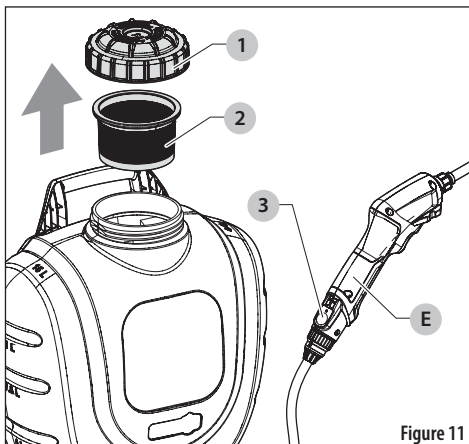

Figure 11
1. Ensure the power wand sprayer (E) is OFF and remove the power wand sprayer. See Figure 11.
2. Remove the cap (1) and the filter basket (2) and empty any extra chemical from the tank into a suitable container for later use or dispose according to the chemical manufacturer's instructions.
5. Reinstall the hose and power wand sprayer (E) and press the power button (3) to turn the sprayer ON.
11. Once the sprayer is dried, turn the sprayer upright and reinstall the cap (1) and filter basket (2) to prevent debris from entering the tank.